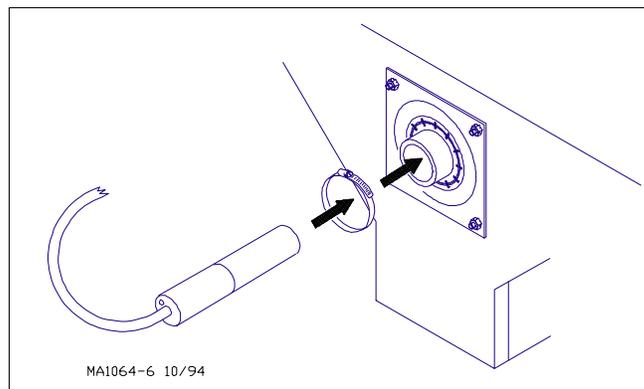

Figure 2.
3. Install the Proximity Switch in the plastic Switch Mounting Plate. The sensing end of the Proximity Switch should be inserted approximately 1 inch (25 mm) into the hopper. Secure the Proximity Switch in place using the clamp supplied. See Figure 2.